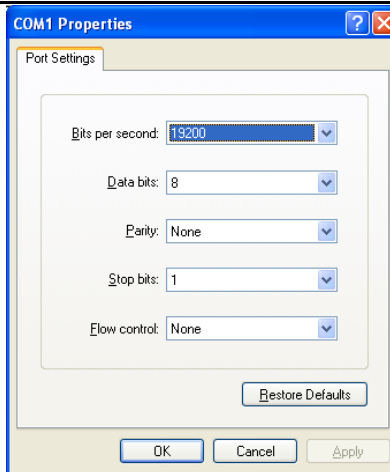

Figure 19. COM Selection Settings
4. Set the following baud rate settings (see Figure 19). When complete, click on the Apply button to set these settings, and then click on the OK button.